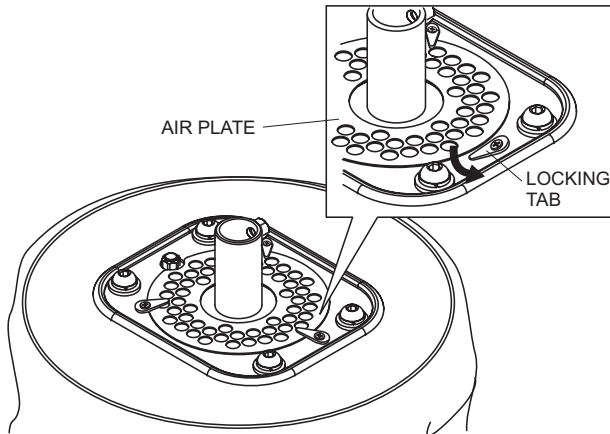

Figure 45. Accessing Filter
2. Turn the balloon/lamp assembly upside down to access the filter. See Figure 45.
3. Turn the three locking tabs outwards to release the air plate. See Figure 45.